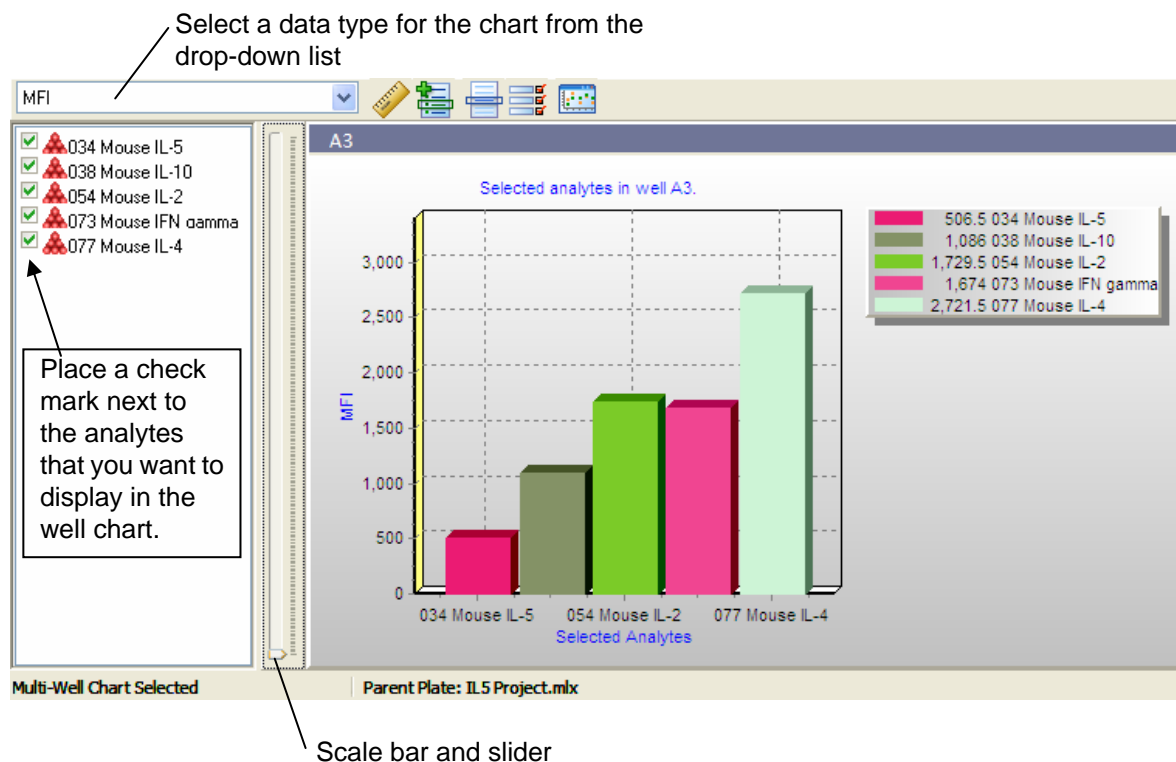

Figure 7.1 Multi-well chart
⇒ The Data Chart window opens and displays the well chart(s) (default) for the selected well(s) (Figure 7.1).
4. To change the data type in the chart (MFI, count, or concentration), make a selection from the data drop-down list (Figure 7.1).